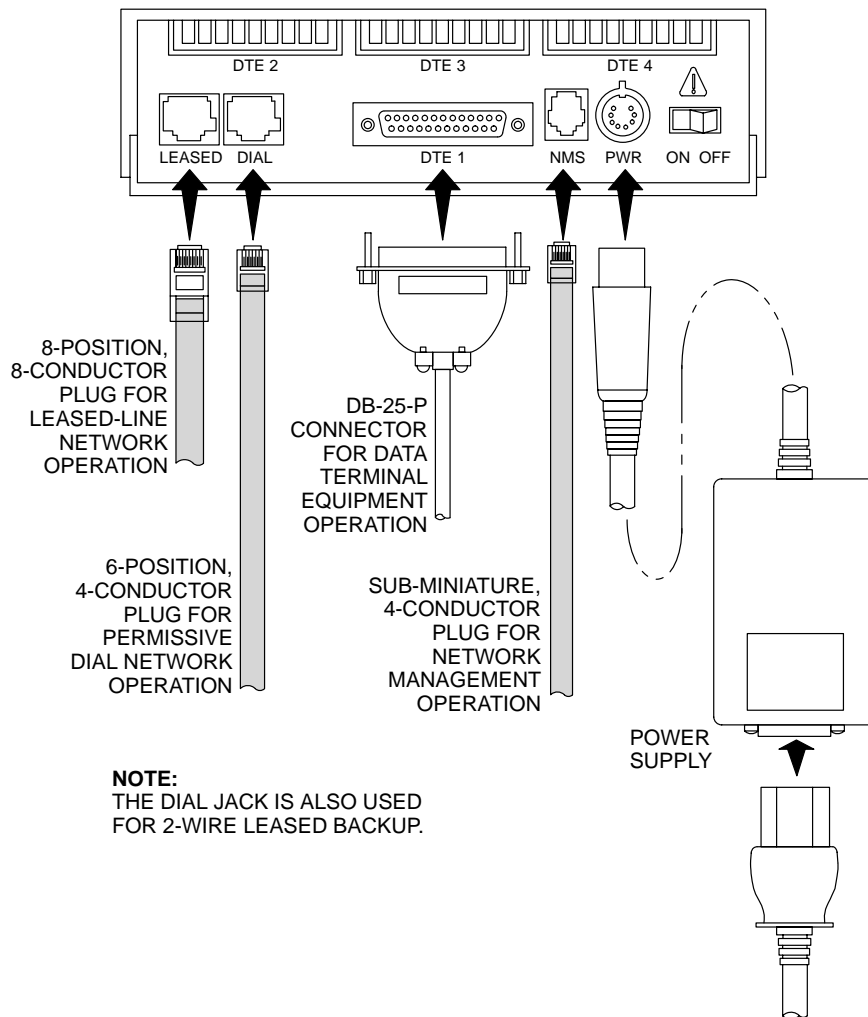

Figure 2-1. Model 3910 Rear Panel and Power Supply
The rear panel of the Model 3910 modem (Figure 2-1) has the following switches and connectors:
Figure 2-1 shows how Model 3910 modems are connected to certain TELCO jack types using the appropriate cables. For pin assignments, refer to Appendix C, *Pin Assignments*.
2. Connect the DB-25-P (plug) connector on the cable to the DB-25-S (socket) connector labeled DTE (Figure 2-1) on the modem's rear panel. Use a small screwdriver to secure the cable to the modem.
1. Insert the 8-position, 8-conductor modular plug into the jack labeled LEASED (Figure 2-1).
1. Insert the 6-position, 4-conductor modular plug into the jack labeled DIAL (Figure 2-1).
1. Insert the 8-position, 8 conductor modular plug into the jack labeled DIAL (Figure 2-1).
1. Insert the sub-miniature, 4-conductor modular plug of the 3600 Hubbing Device into the jack labeled NMS (Figure 2-1). Refer to Document Number, 3610-A2-GZ45, *3600 Hubbing Device Feature Number 3600-F3-300, Installation Instructions*, for a description of the 3600 Hubbing Device. Installation for the 3910 is the same as for the 3610 DSU.
2. Insert the power supply's 8-pin DIN connector into the modem's rear panel dc power receptacle (Figure 2-1).